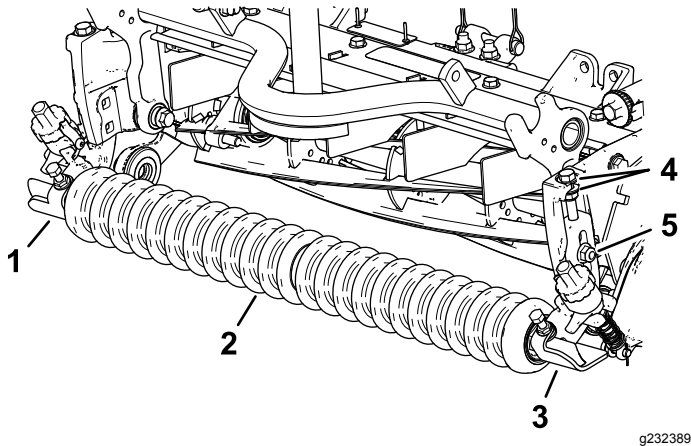

Figure 10
1. Loosely install the left and right HOC bracket assemblies and the front roller assembly to the cutting-unit side plates using the previously removed carriage bolts (Figure 10).